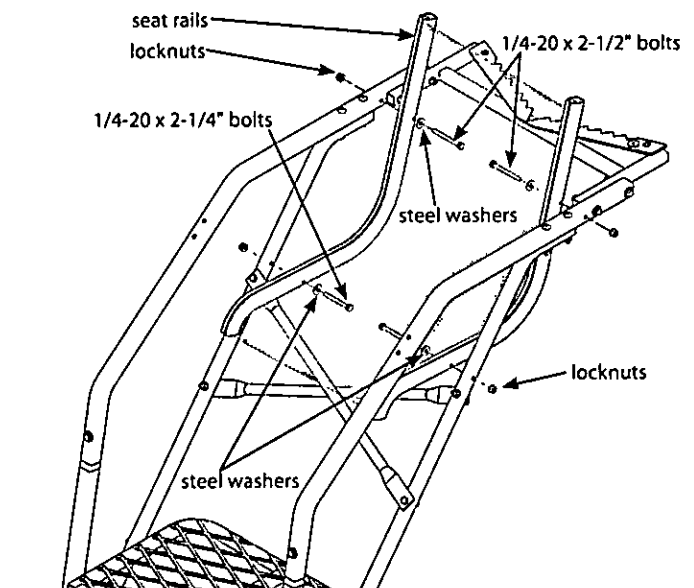

Figure 5
a. Using (2) provided 1/4-20 x 2-1/2" bolts, locknuts and steel washers, attach the upper portion of each seat rail to the main side rails. **SEE FIGURE 5.** It is important to have the bolt head on the seat rail side and the locknut on the main side rail side for ease of assembly. **FINGER TIGHTEN THESE TWO BOLTS ONLY AT THIS TIME.**
b. Using (2) provided 1/4-20 x 2-1/4" bolts, locknuts and steel washers, attach the lower portion of each seat rail to the upper ladder support tubes. **SEE FIGURE 5.** It is important to have the bolt head on the seat rail side and the locknut on the upper ladder support tube side for ease of assembly.